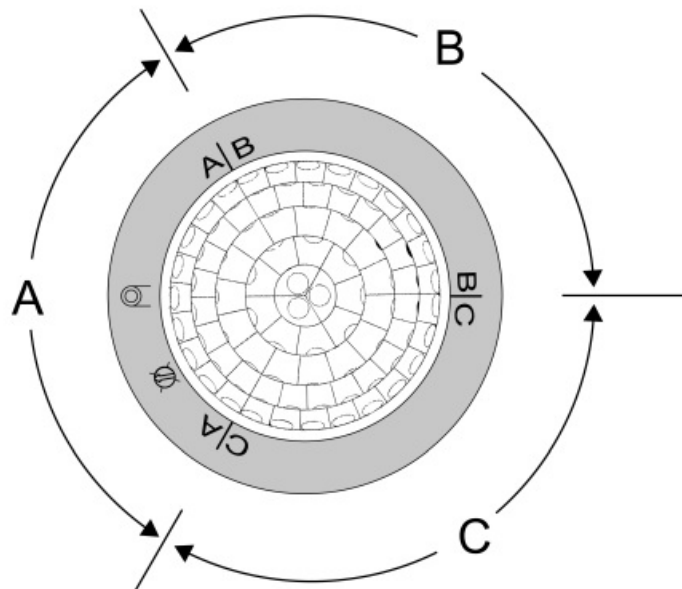

Figure 6: Arrangement of the areas A, B and C
- Align the connection box (1) in such a way that the areas A, B and C match the structural conditions. The arrangement is clearly evident under the decor ring (see figure 6).